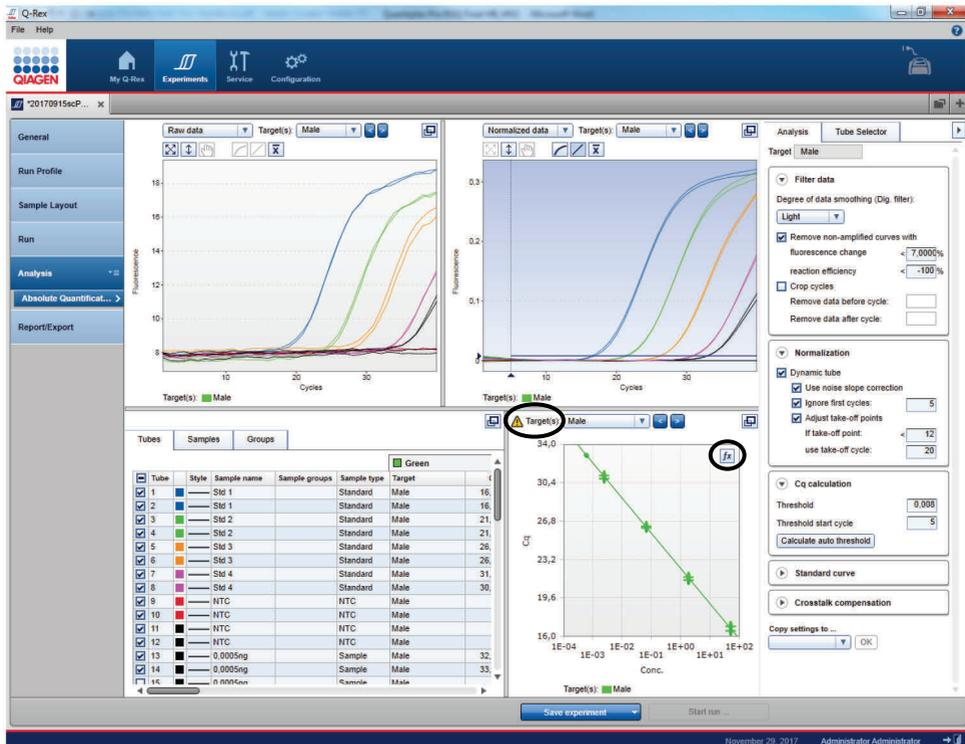

Figure 32. Standard curves in Q-Rex.
15. The Standard Curves are shown in the “Targets” windows. Select one or multiple targets. View the calculated regression line, slope (M), y-intercept (B), R^2 and efficiency values by clicking on the fx-symbol (Figure 32).